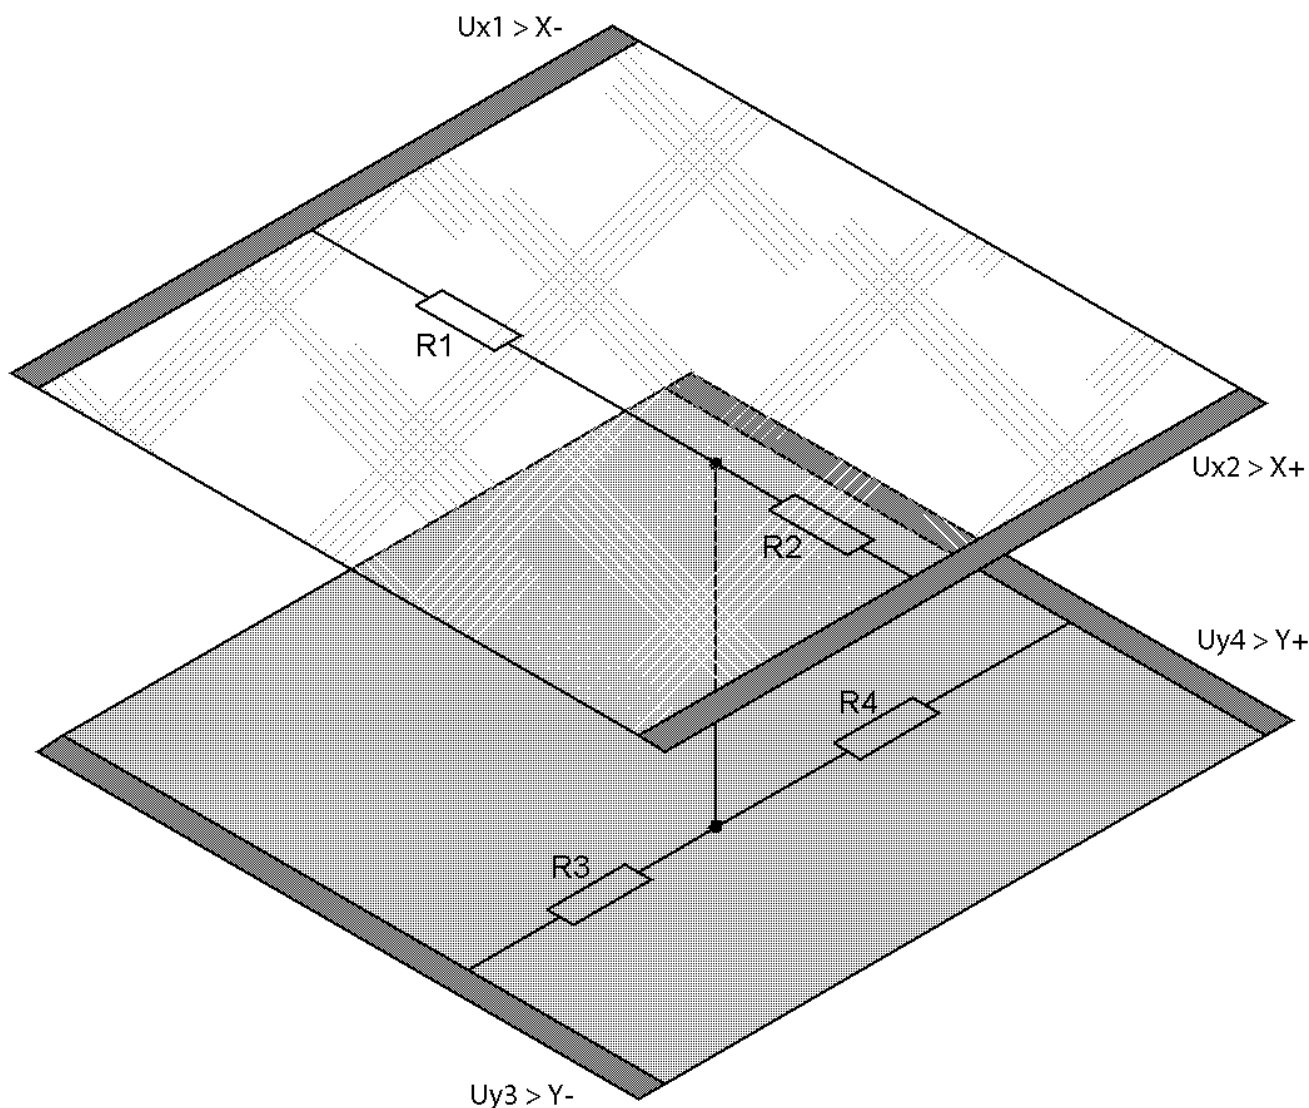

Figure 1
1. +5V input is fed to the upper electrode (**Uy4 Fig. 1**). The lower electrode (**Uy3 Fig. 1**) is grounded. Then voltage is measured on the left and right electrodes (**Ux1, Ux2 Fig. 1**). This voltage corresponds to the Y-coordinate on the screen.
2. In the same way, the left and right electrodes (**Ux1, Ux2 Fig. 1**) are connected to +5V and GND, and the X-coordinate is obtained from the upper and lower electrode's voltage. (**Uy4, Uy3 Fig. 1**)